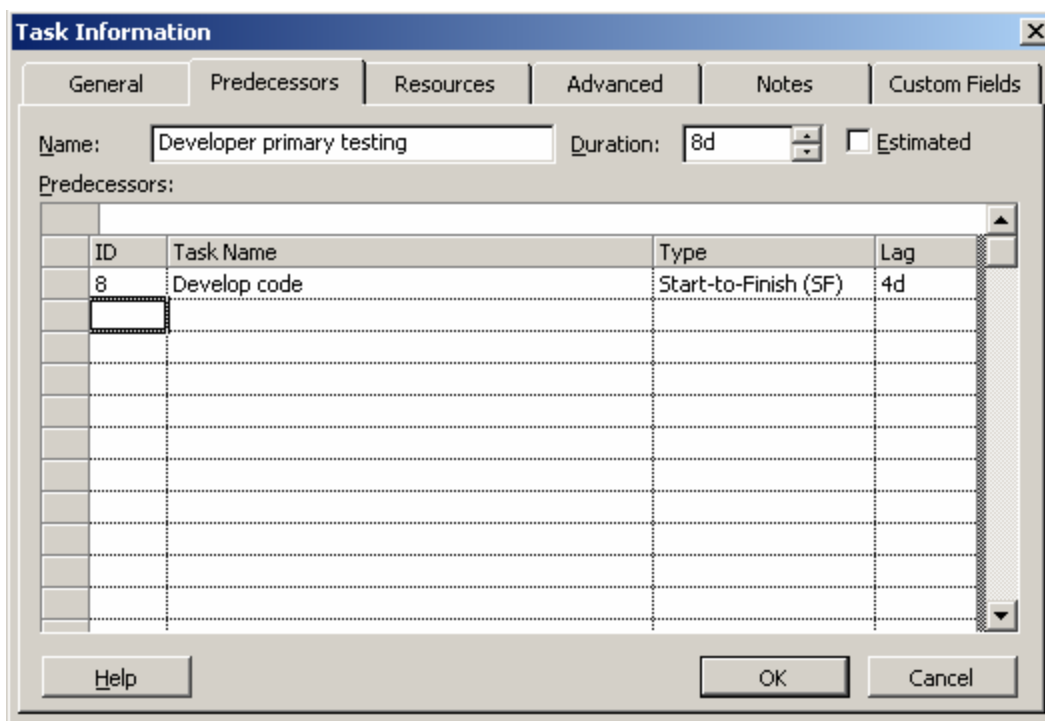

Figure 11.9: Specifying Value for the Lag Field
11. Type **4d** in the **Lag** field cell to specify four days lag time between the two tasks. This step is displayed in Figure 11.9.